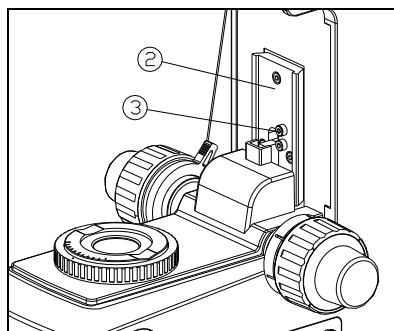

Fig. 20
(3) Rotate the coarse focusing knob, and rise up the focus skateboard ② to the position where the limit screw ③ can be seen from the mirror arm. (See Fig. 20)
(4) Loosen and remove the limit screw ③.
(5) Reinstall the stage bracket and the stage.